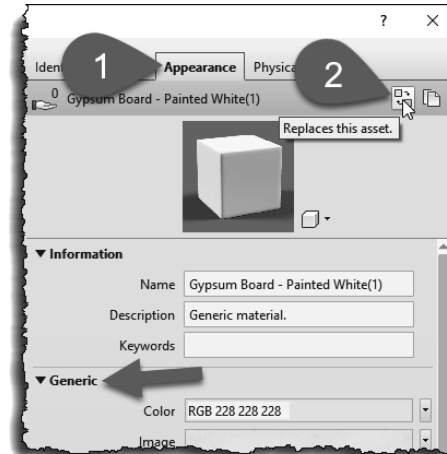

FIGURE 4-3.13 Replace asset icon
Next you will need to replace the *Appearance* asset with one specifically meant for paint. Currently it is set to *Generic* and not *Wall Paint* as pointed out in Figure 4-3.13.
44. Click the **Replace this asset** icon (Figure 4-3.13).